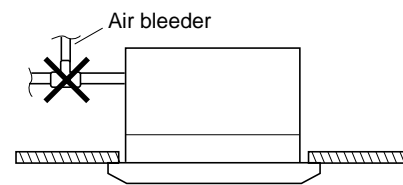

Fig. 3-8
- Do not install an air bleeder tubes, as this may cause water to spray from the drain tube outlet. (Fig. 3-8)